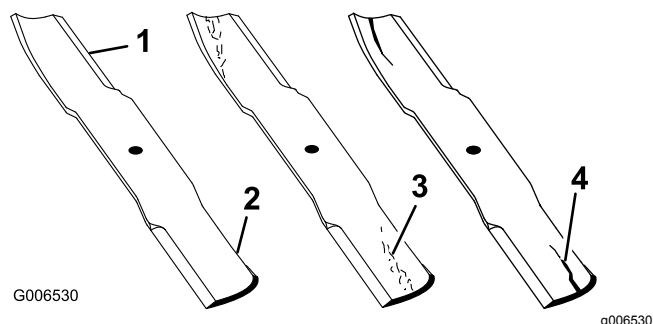

Figure 96
1. Inspect the cutting edges (Figure 96).
4. If you notice any damage, wear, or a slot forming in this area, immediately install a new blade (Figure 96).